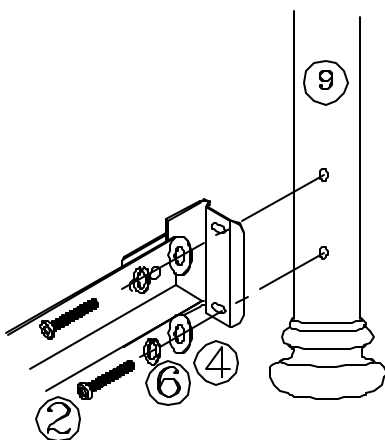

FIGURE 3
- Place a flat washer (4) first, a lock washer (6) and then a nut (3) on each screw. Hand-tighten, DO NOT TIGHTEN screws all the way.
- Position footboard (9) panel and align holes in the post with holes in the frame bracket. (See figure 3)
- Place a lock washer (6) and a flat washer (4) on each screw (2). Insert through bracket and into post. Hand-tighten, DO NOT TIGHTEN screws all the way.